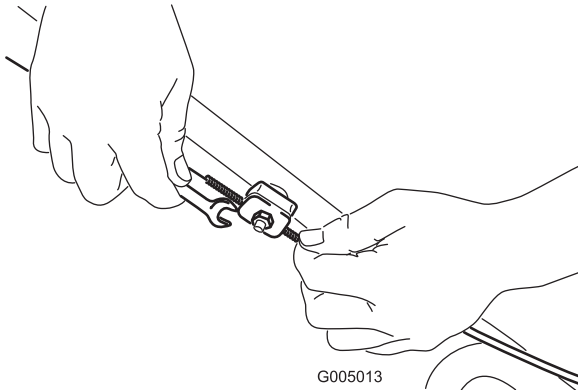

Figure 28
1. Loosen the cable-support nut (Figure 28).